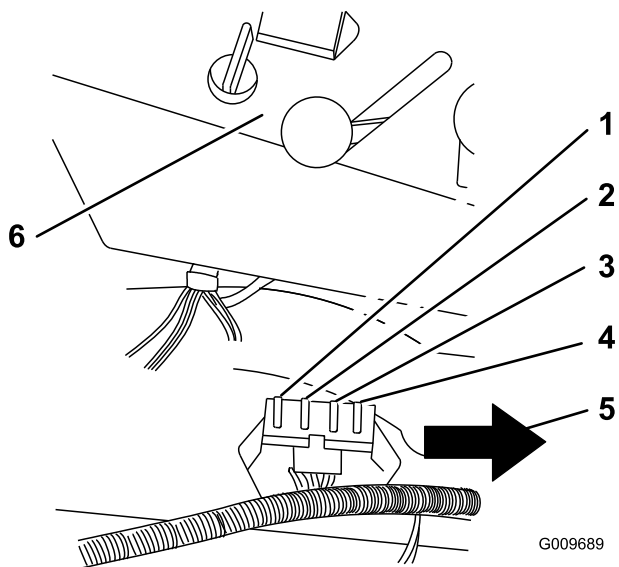

Figure 38
- Raise the seat to gain access to the fuse holder (Figure 38).
- Install a new fuse (Figure 38).